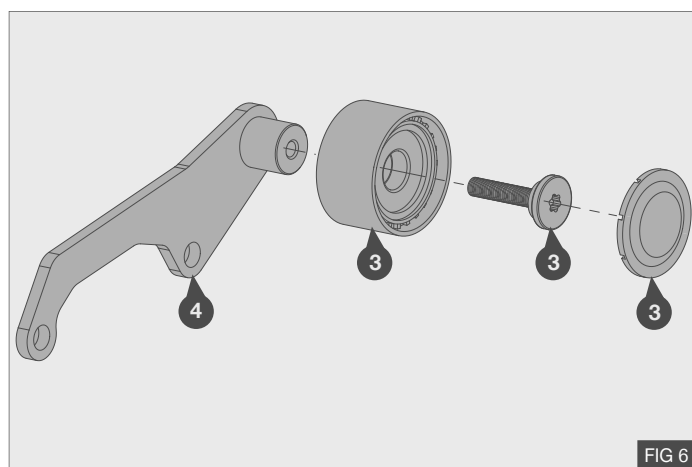

FIG 6
2. Assemble the idler (3) to the idle plate (4) – Fig 6
3. Torque the idler (3) to 25 Nm / 18 lb ft using a calibrated torque wrench – Fig 6
4. Fit the idle pulley cap to the idle pulley – Fig 6